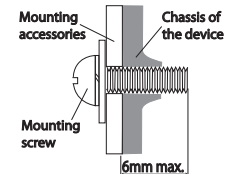

Figure 4 - Mounting Screw
5. Installation of Mounting Accessories (Fig. 4)
- Refer to Figure 4: Recommended mounting tightening torque: 0.4 to 0.8 Nm (3.5 to 7 in-lb).